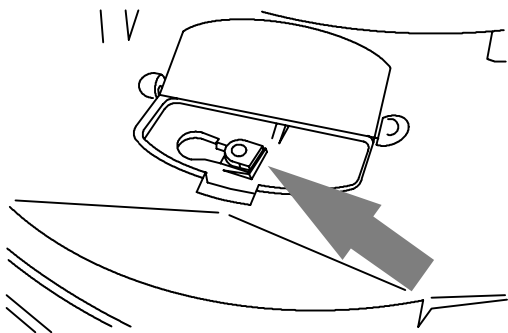

FIG. 14
- Open access cover on scrub head and turn brush until drive pin is visible (Figure 14).